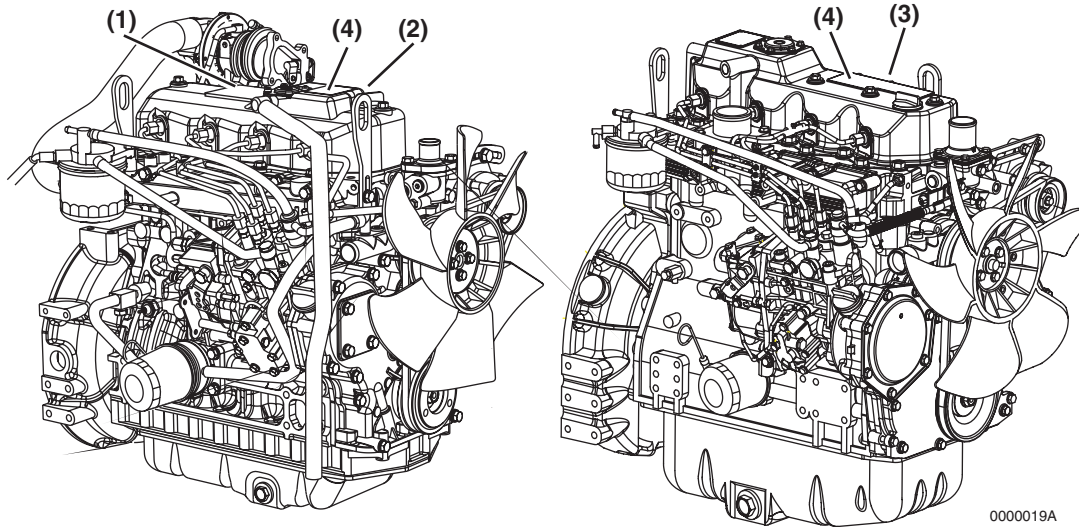

Figure 4-2
Figure 4-2 shows where the major engine components are located.
Figure 4-2 shows the location of regulatory and safety labels on Yanmar TNV series engines.
The typical location of the emission control information label is shown for 4TNV84, 4TNV84T and 4TNV88 engines (**Figure 4-2, (1)**).
The typical location of the emission control information label is affixed to the exhaust side of the rocker arm cover for 3TNV82A, 3TNV84, 3TNV84T and 3TNV88 engines (**Figure 4-2, (2)**).
The typical location of the emission control information label is affixed to the exhaust side of the rocker arm cover for 4TNV94L, 4TNV98, 4TNV98T, 4TNV106 and 4TNV106T engines (**Figure 4-2, (3)**).
The typical location of the engine nameplate is shown for various Yanmar TNV engines (**Figure 4-2, (4)**).